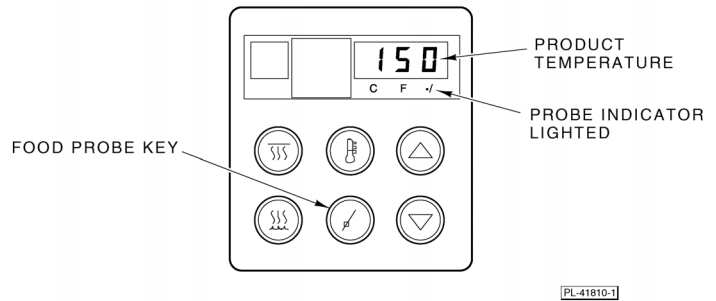

Fig. 27
- The actual product temperature will display for 10 seconds (Fig. 27).